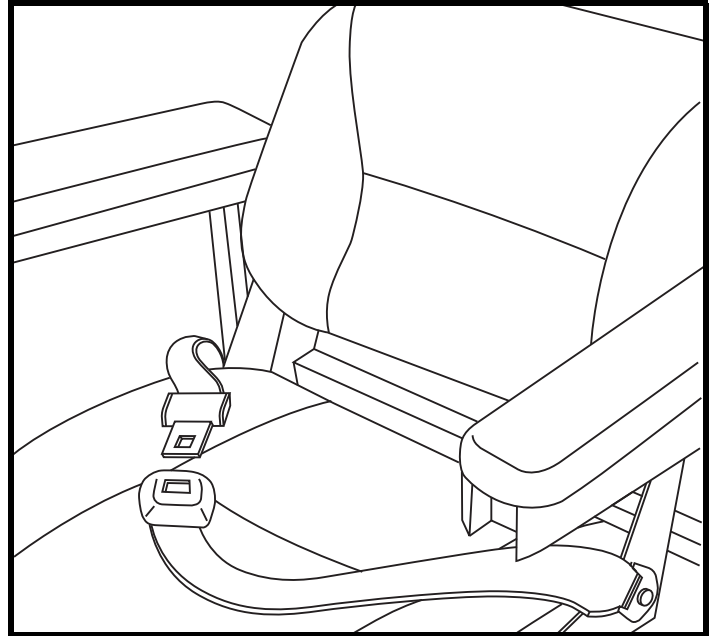

Figure 19. Positioning Belt Adjustment
Your power chair may be equipped with a positioning belt that can be adjusted for operator comfort. See figure 19. The positioning belt is designed to support the operator so that he/she does not slide down or forward in the seat. The positioning belt is not designed for use as a restraining device.
1. Once seated, insert the metal tab on one side of the belt into the plastic housing on the opposite side until you hear a click. See figure 19.